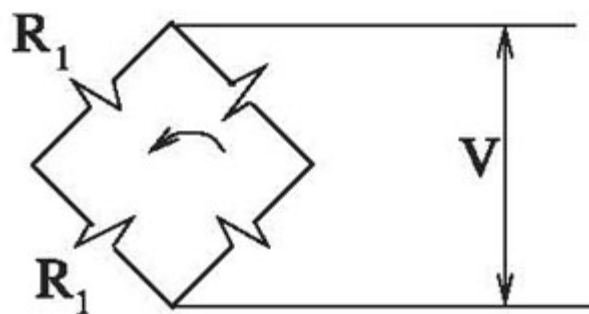
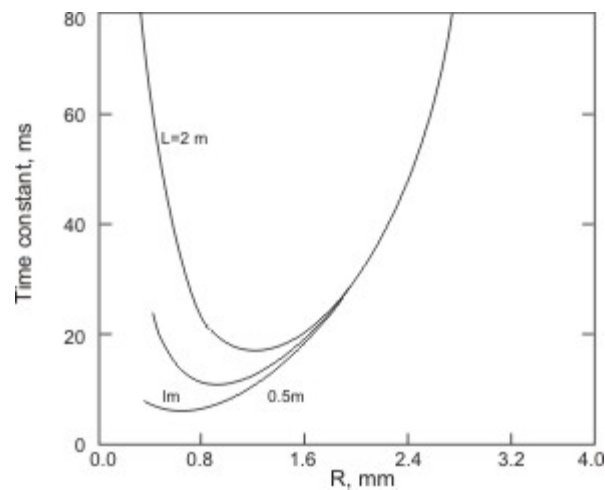

Figure 2.25: Transient Response of a Hot-wire Probe.
Figure 2.26: Time Constant of a Pitot Tube as a Function of Radius and Length.
**Example:** First consider a hot-wire working in constant current mode (Figure 2.25). The wire whose resistance equals  $R$  is a part of a Wheatstone bridge with a control resistance  $R$  and a battery voltage  $V$ . The Joule heating of the wire is  $V^2 R / (R + R_1)^2$  and the energy lost to the flow is  $hA(T - T_f)$ , where  $h$  is the heat transfer coefficient,  $A$  the surface area of the wire and  $T$  its temperature.  $T_f$  is the local fluid temperature. The difference between the two energy terms will change the wire temperature at a rate  $mc_p dT/dt$  and subsequently the wire resistance. We assume the wire resistance to change as
The effective total time constant  $\tau$  can be taken as the sum of the individual time constant  $T_{c1}$  and  $T_{c2}$ . This value has been plotted in Figure 2.26 as a function of the radius for three different lengths. As the radius  $R$  increases the viscous resistance to flow reduces faster than the increase in the fluid volume. Hence  $T_{c1}$  decreases with  $R$ . In contrast to this it takes a longer time for the presence of the wall to be felt and  $T_{c2}$  increases with  $R$ . At some intermediate radius (  $R$ : 0.5 mm in Figure 2.25) the total time constant attains a minimum value. This radius as well as the magnitude of the total time constant depend on the length of the tubing. However Figure 2.26 shows that the effect of the length is not as pronounced as the radius. For a tube of radius greater than 2 mm the time constant is independent of the length and determined by  $R$  (and hence spatial variation) alone.